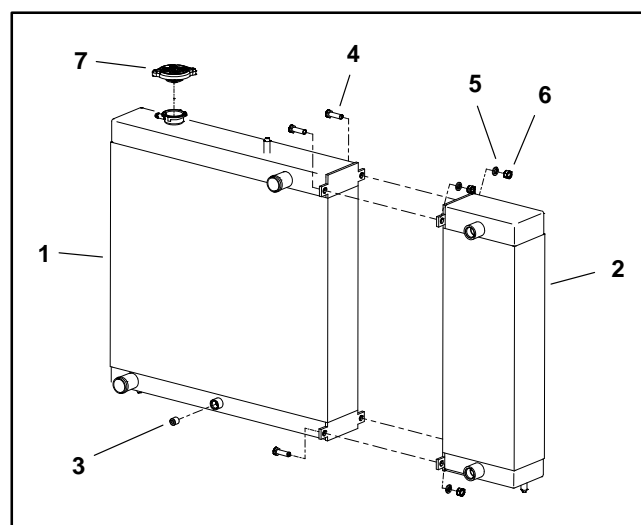

Figure 8
3. Place a suitable container under the center of the radiator to allow coolant draining. Remove pipe plug (item 12 in Fig. 8) (hex socket head) from bottom of the radiator and completely drain the radiator.
7. Remove four (4) screws that secure fan shroud to frame. Carefully position fan shroud away from radiator taking care to not damage fan.
8. Remove two (2) flange head screws (item 10) and flange nuts (item 11) that secure the radiator support to the frame. Lift support from radiator.
11. Inspect bulb seals on radiator and oil cooler assembly and replace them if damaged or hardened. Also, make sure that three (3) isolator mounts (item 5) are in good condition.
12. Separate radiator and oil cooler if necessary (Fig. 8).
5. Position the radiator support to the top of the radiator and oil cooler assembly. Make sure that radiator pin engages isolator mount in support. Secure support with two (2) flange head screws (item 10) and flange nuts (item 11).
6. Carefully position fan shroud to radiator taking care to not damage fan. Secure fan shroud to the frame with four (4) screws.
10. Apply thread sealant to threads of radiator plug (item 12 in Fig. 8). Install plug into radiator opening.
1. If radiator and oil cooler were disassembled, position oil cooler to radiator and secure with removed fasteners (Fig. 8).
4. Carefully position radiator and oil cooler assembly to the machine. Make sure that lower pins engage isolator mounts (item 5).